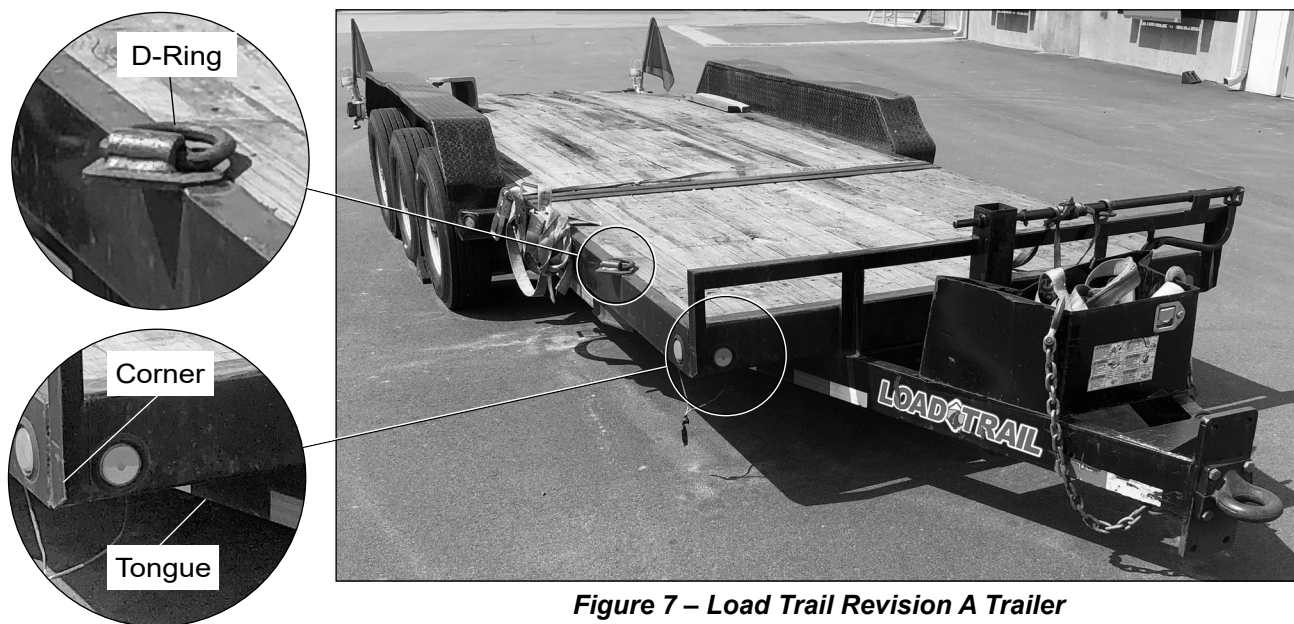

Figure 7 – Load Trail Revision A Trailer
1. On a Revision A trailer, the angled tongue frame rails are inset from the front corners of the stationary cargo deck and the D-ring mounting plates overhang beyond the outboard side of the cargo deck frame rails (refer to Figure 7). This type of trailer requires the D-Rings Kit for Load Trail Trailer Revision A, part number 991342027.